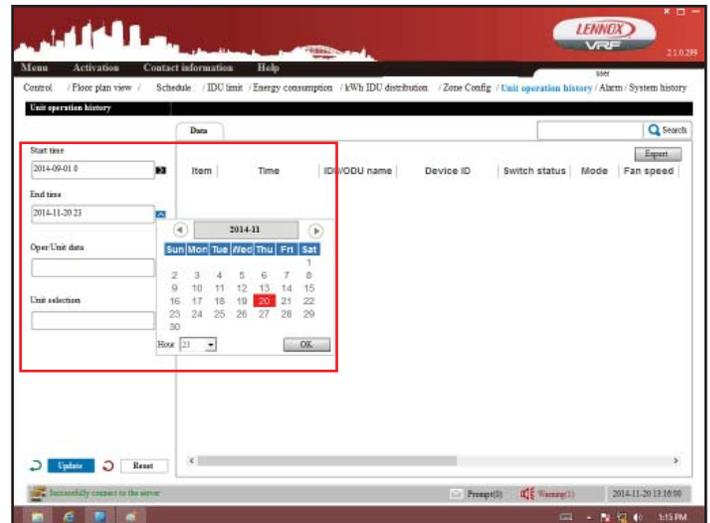

Figure 56. Select Stop Time
5. Tap the End time field. A calendar displays. See figure 56.